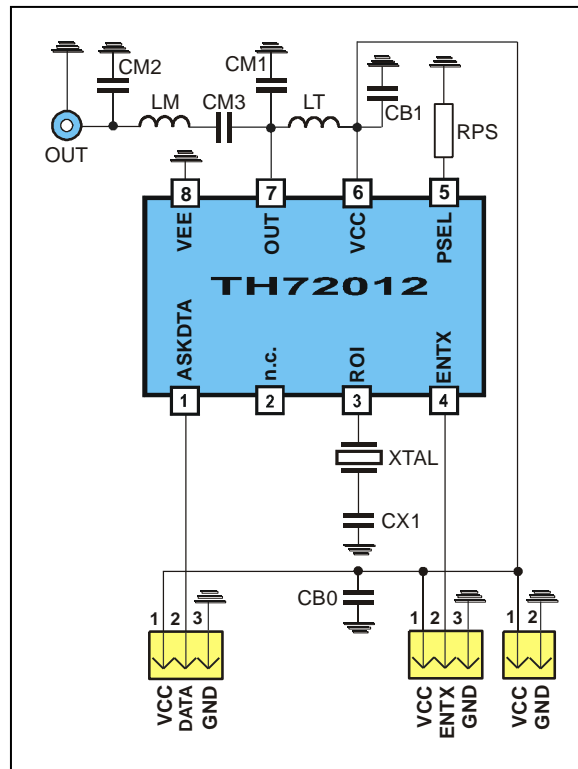

Fig. 17: Test circuit for ASK with 50 Ω matching network
- Data according to test circuit in Fig. 17
**6.1. Test circuit component list to Fig. 17**